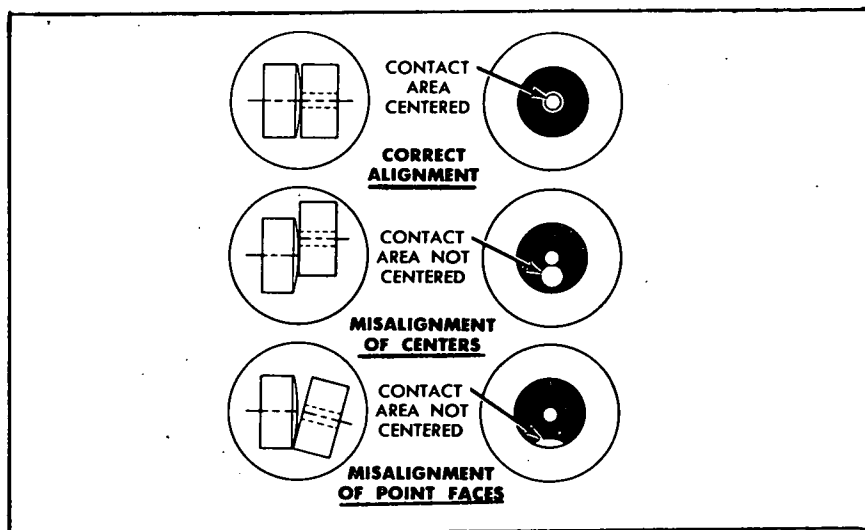

FIG. 6-8. BREAKER POINT ALIGNMENT.
3. The vented-type breaker points must be accurately aligned and close squarely to insure normal breaker point life. Turn the distributor cam (energize starter if distributor is in engine) so breaker points close. Check the alignment of the points (Fig. 6-8) with a magnifying glass. Align the points to make full face contact by bending the stationary point bracket. Do not bend the movable arm.